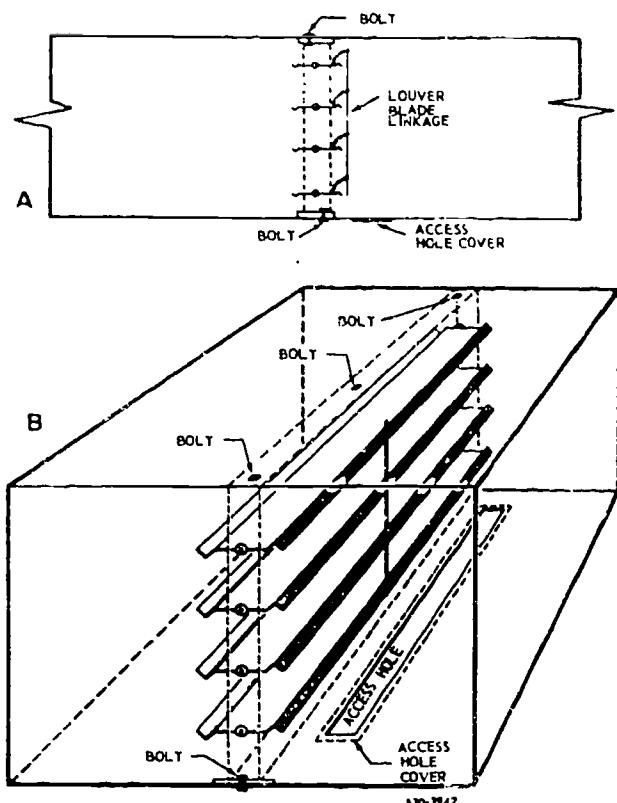
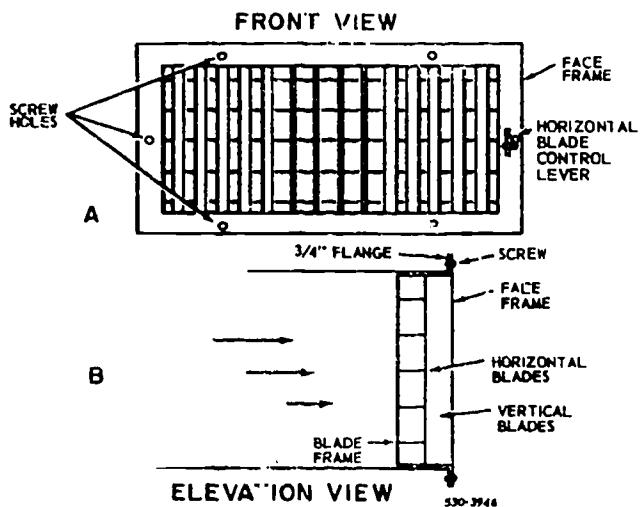

Figure 3-10. Louver damper.
Figure 3-13. Multiple blade register.
drawings this type of volume damper is labeled a multiblade damper, whereas on the other drawings the same damper is labeled a louver damper. Figure 3-10 shows a louver damper used to reduce or shut off the flow of air through a duct. Each of the four damper blades pivots on its centerline axis when the connecting linkage is moved. Although not shown, the linkage can be operated by various means, such as motors, springs, weights, and airflow, or can be manually positioned with gears or quadrant handles. Notice in figure 3-10 how the edges of each blade have V-grooves so that, when the blades are tilted to vertical position, the grooves fit together to make a better seal.
Louver dampers are usually purchased as factory-made assemblies, and your job will be to install them correctly. You attach the louver damper, shown in figure 3-10, to the inside of the straight duct with bolts before you install the duct and connect the louver blade linkage to its actuating device. Notice the access hole and cover plate so that inspection or maintenance can be performed when necessary. During installation be sure to use holheads that do not interfere with the movement of the blades.
**Registers.** Several types of registers are used at duct supply outlets to control the volume and direction of the airflow. The device shown in figure 3-13 is a multipleblade register with two sets of blades. The horizontal row of blades connects with linkage that is controlled by the hand-operated lever on the right side of the face frame. You can adjust the horizontal blades from full-flow position to full-closed position. The horizontal blades operate somewhat like louver damper blades in figure 3-10, although the pivot axis is usually at the back of each blade instead of at its center. During the adjustment of the horizontal blades from the full-open to the closed position, the front edge of the blades lowers through a 90° arc.
The vertical blades shown in figure 3-13 are not linked together but are set individually to the desired angle of deflection. You can adjust the vertical blades
View B in figure 3-13 shows a side view and the way the blade frame is attached with sheet metal screws to a 3/4-inch flange turned 90° at the end of the rectangular duct. The blade frames should have approximately 1/4 inch clearance when they are installed in a duct.